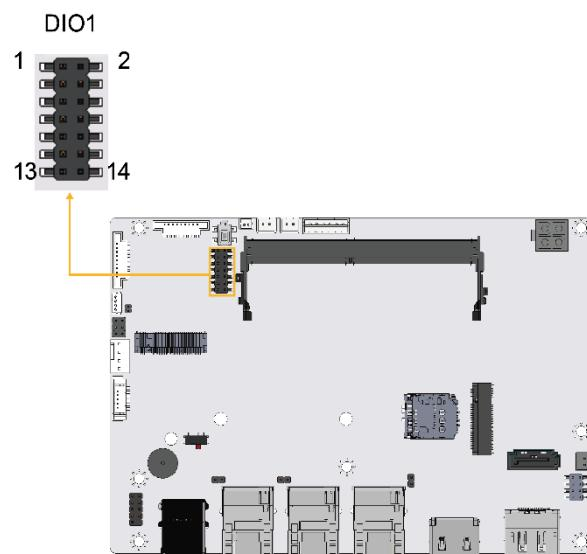

Figure 3-29: Digital I/O Connector Location
3.11.2 Digital I/O Connector**CN Label:** DIO1**CN Type:** 10-pin wafer, p=2.0 mm**CN Location:** See **Figure 3-29****CN Pinouts:** See **Table 3-4**